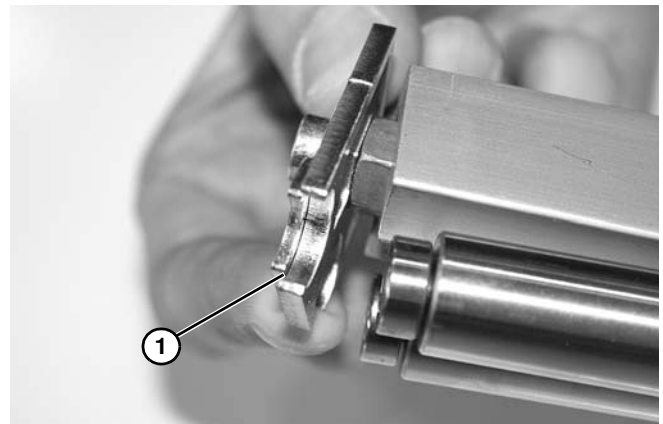

Figure 66
6. Remove outer and inner end plate (**Figure 66, item 1**).